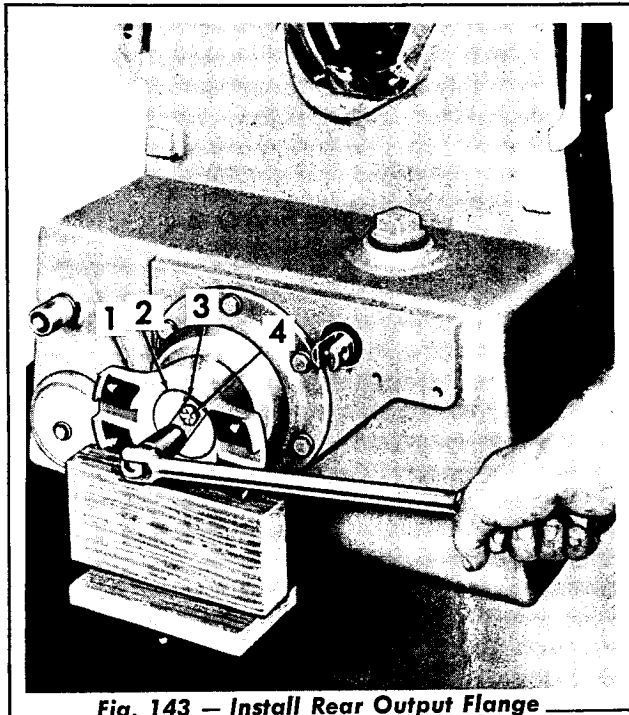

Fig. 143 — Install Rear Output Flange
14. Heat the rear output flange (Fig. 143) to 300° F. for one hour and install it onto the rear output shaft. Secure the flange with the flange retainer washer, the lock strip and the self-locking capscrews. Bend the corners of the lock strip against the cap-screw heads.